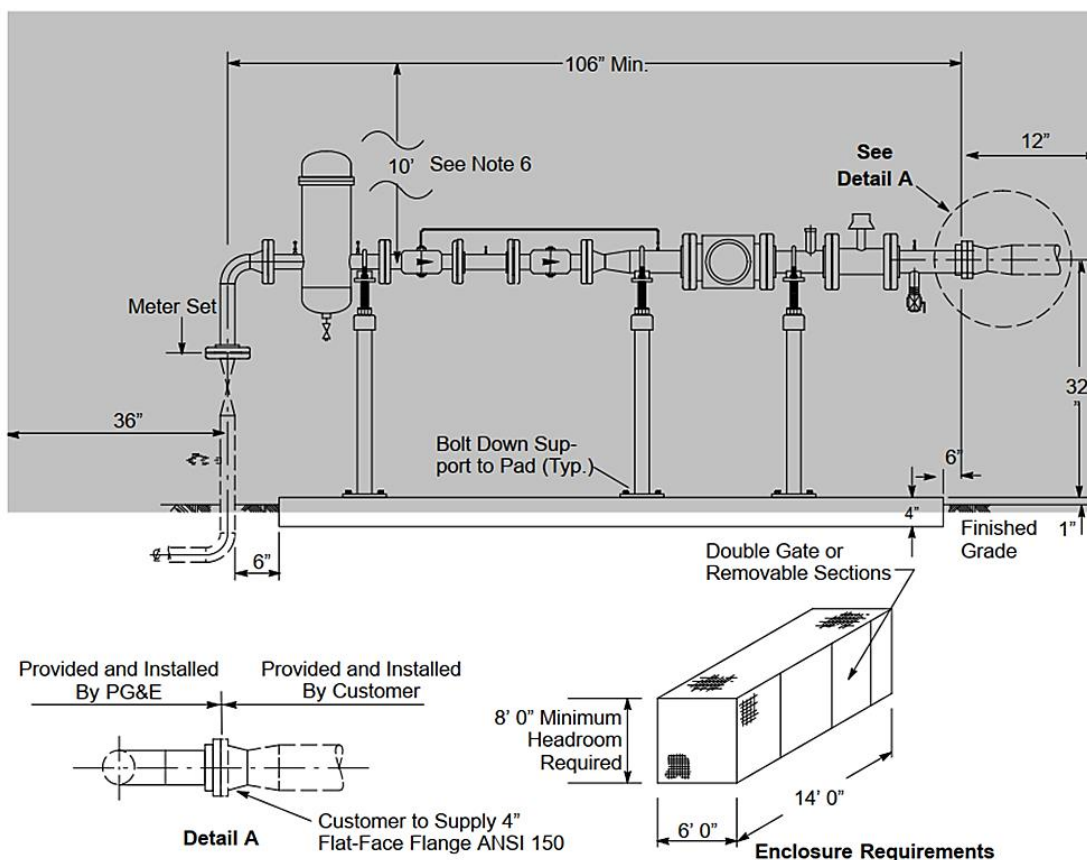

Figure 8. Typical 11M or 16M Rotary Gas Meter Set
- (5) PG&E's weld elbow is optional.
- (6) The meter set must clear any sources of ignition or openings into the building. The riser must be a minimum distance of 36 inches from sources of ignition and openings into the building, or any wet facility. This clearance area extends 10 feet above the highest regulator vent, 36 inches below the lowest regulator vent, and 12 inches beyond the farthest PG&E meter-set equipment.
- F. Figure 8 represents a rotary gas meter with 7,001 through 16,000 scfh at an approved delivery pressure.
- G. Notes in reference to Figure 8:
- (1) Customers must provide a 96-inch x 36-inch x 4-inch concrete pad with minimum #4 rebar that is typically 12-inches grid on center.
- (2) Customers must provide a 4-inch ANSI 150 flat-face flange to connect to PG&E facilities.